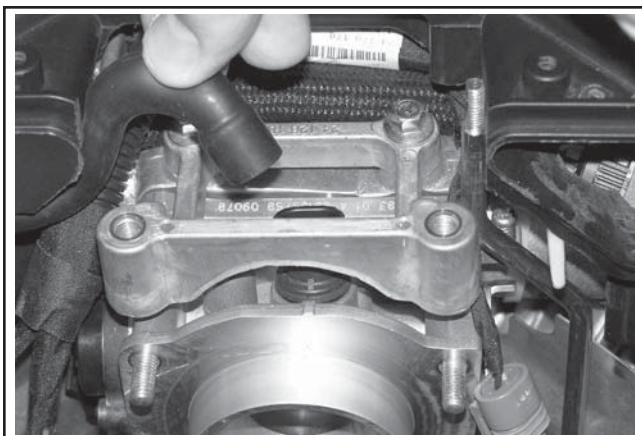

**Figure 8-17. Disconnect Intake Air Temperature Sensor.**
1. Disconnect the intake air temperature sensor. See Figure 8-17.